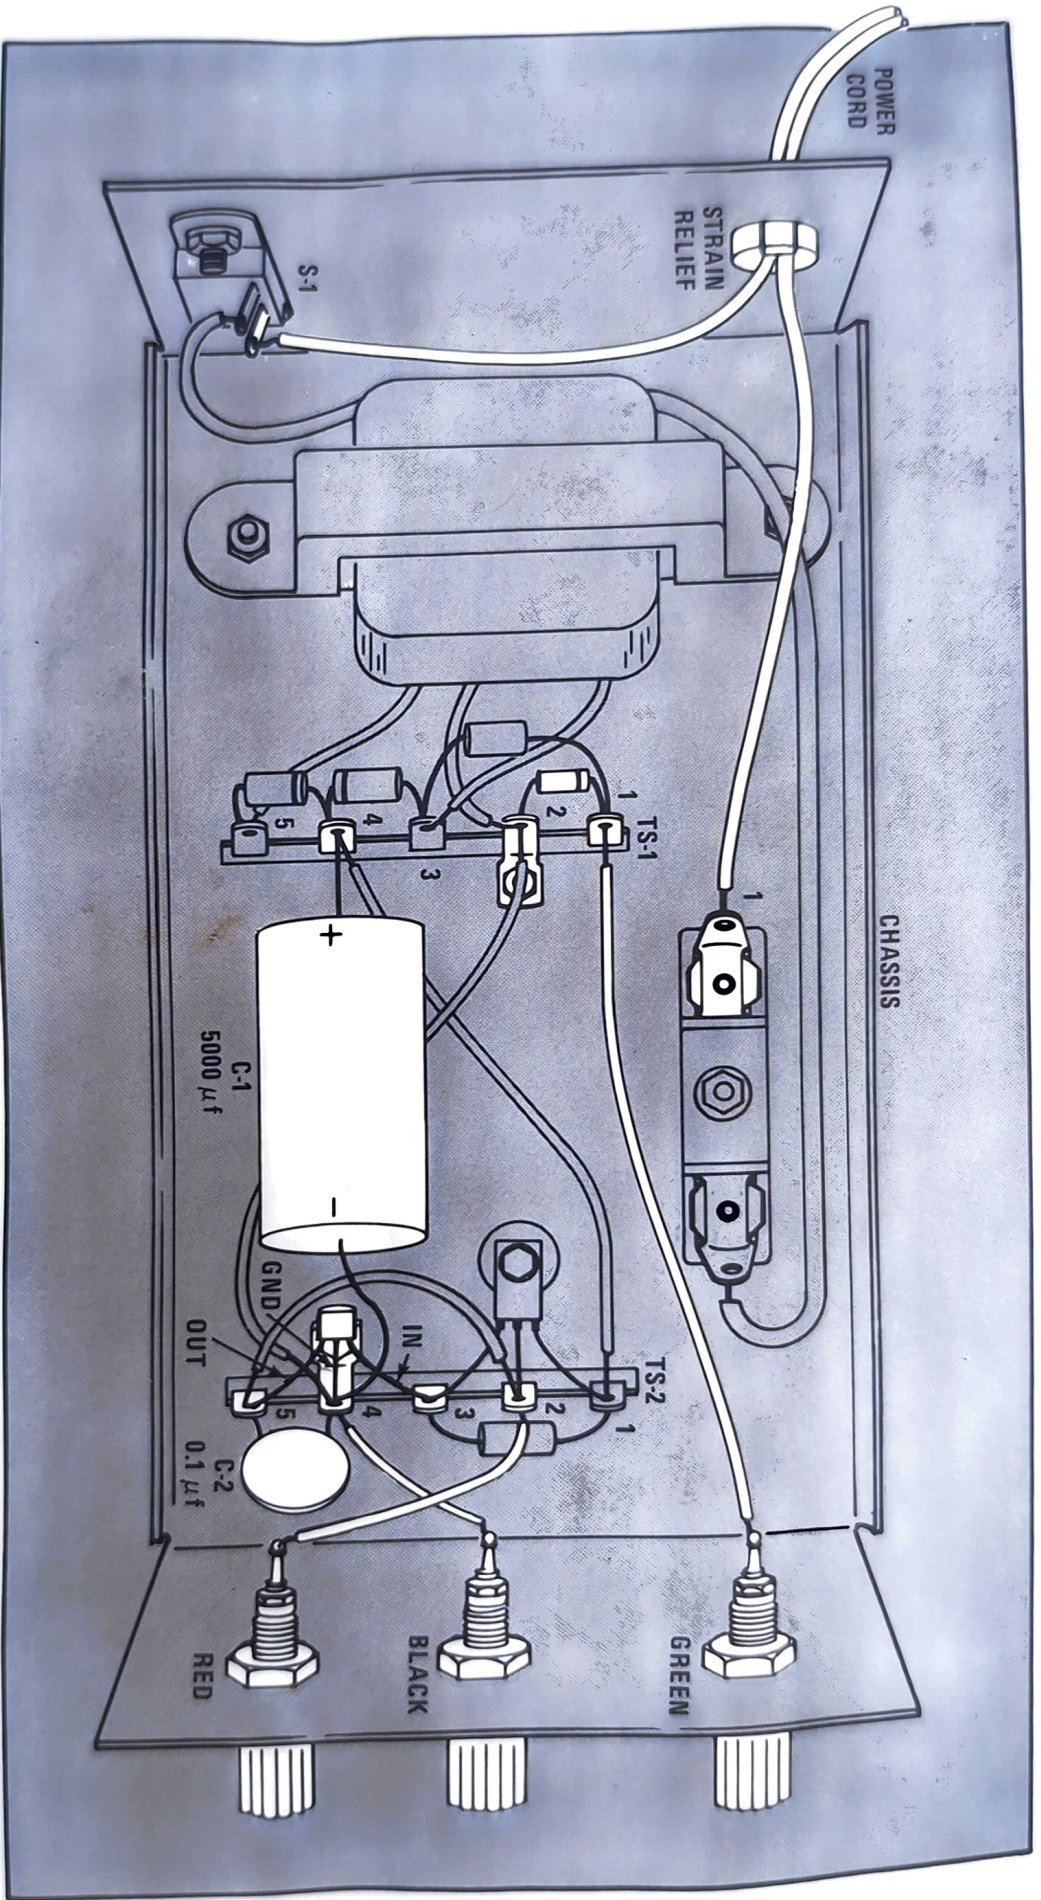

FIGURE 4
REFER TO FIGURE 4.
- IC-1 will be marked HEPC6142P. It will look like this. Carefully identify each lead (1 = IN, 2 = OUT, 3 = GROUND). Position IC-1 as illustrated in Figure 4 and connect IN lead to 3 of TS-2; connect GROUND lead to 4 of TS-2; connect OUT lead to 5 of TS-2.
- Did you mount IC-1 with the flat side of the package as shown in Figure 4? Any leads crossed?